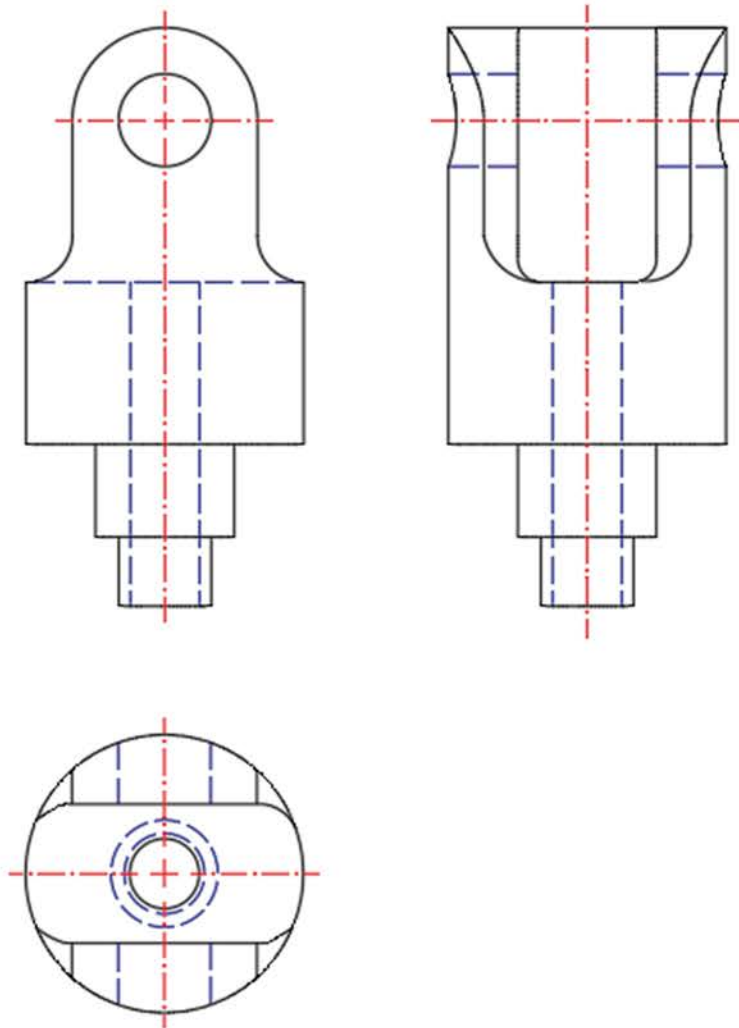

Fig. 8.8 Center marks and centerlines
To add centerlines as shown in Fig. 8.8:
4. Use the lower **Grip** to extend the vertical line of the center mark as shown in Fig. 8.8.